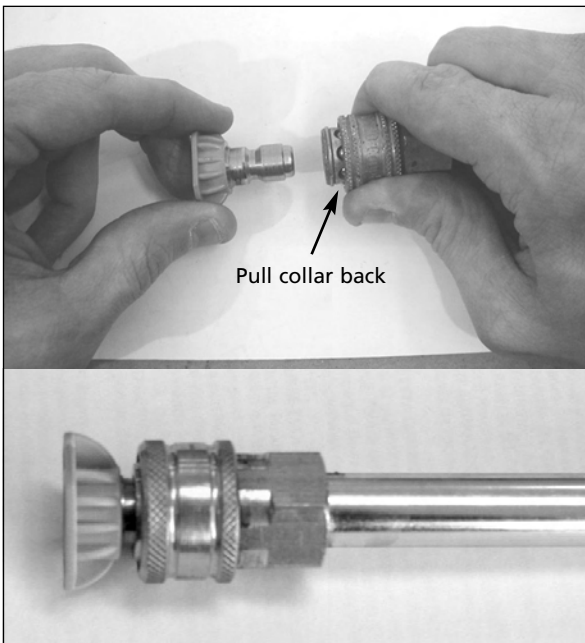

Figure 8 - Installing Quick Connect Tip
- 8. Install quick connect tip by pulling back on collar and pressing in tip. Release collar, make sure it completely returns to its forward position and tip is secure (see Figure 8).